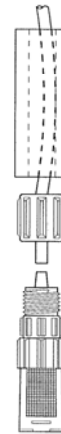

Figure 5: Ceramic-Weighted Strainer
5) Referring to Figure 5 slide ceramic strainer weight on suction tubing first then remove the coupling nut from the strainer and slide onto tubing next. Push the end of the tubing onto the strainer and hand tighten the coupling nut. Hand-tighten only, do not use wrenches. Note: Immerse tubing in hot water to soften prior to pushing on fitting.